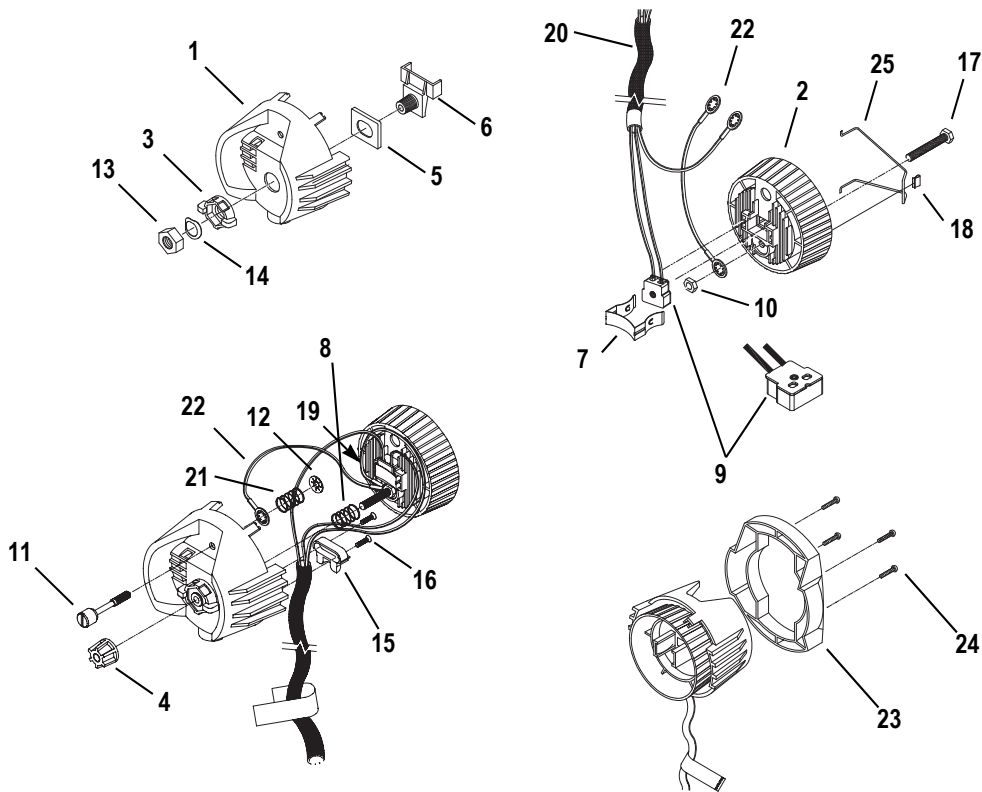
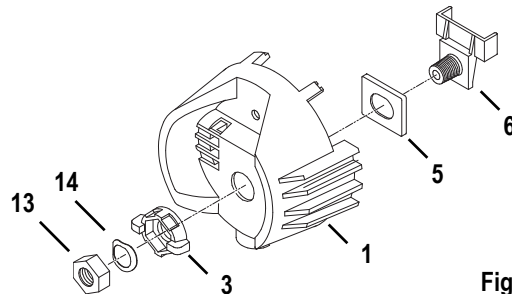

Figure 3
Figure 6
Step 16: Install the bushing cup (5) into the housing socket casting (1) as shown in Figure 6. The cup should slide smoothly up and down, but not side to side.
Step 17: Insert the threaded end of the index hub (6) through the holes in the bushing cup and the back of the housing socket casting (1).
Step 18: Slide the X-Y knob (3) over the exposed index hub bolt (6), then insert the wave washer (14) on the bolt and secure with the 9/16 hex nut (13). Hand tighten the X-Y knob (3).
Step 24: Using the four screws (24), attach the handle (23) to the lamp socket assembly. See Figure 3.
Step 25: Place the compression spring (8) on the protrusion on the inside of the index hub (6).
Step 26: Insert bolt (17) through spring (8) and through the index hub (6) of the housing socket (1), joining the two castings. Make sure wires are not pinched between the two pieces.
Step 27: Before proceeding, check again to make sure the wires are still positioned as indicated in Figure 6. Adjust if necessary.
Step 28: Press the two castings together firmly so the bottom of the light baffle (2) sits on top of the cable clamp (15), then install the X-Y lampset (3) and Z lamp knob (4). Hand tighten the knob all the way to the right.